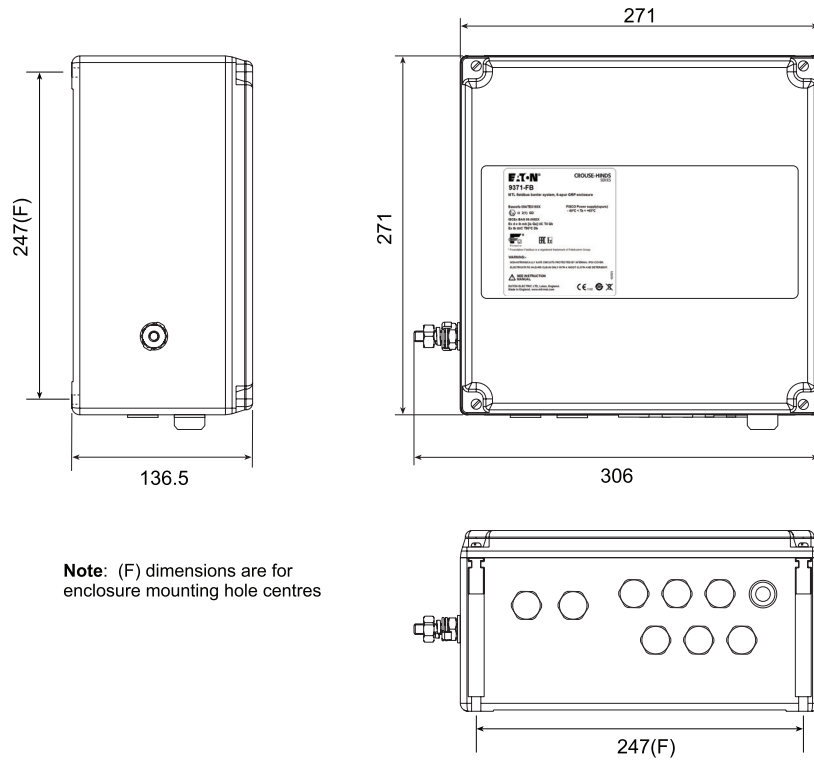
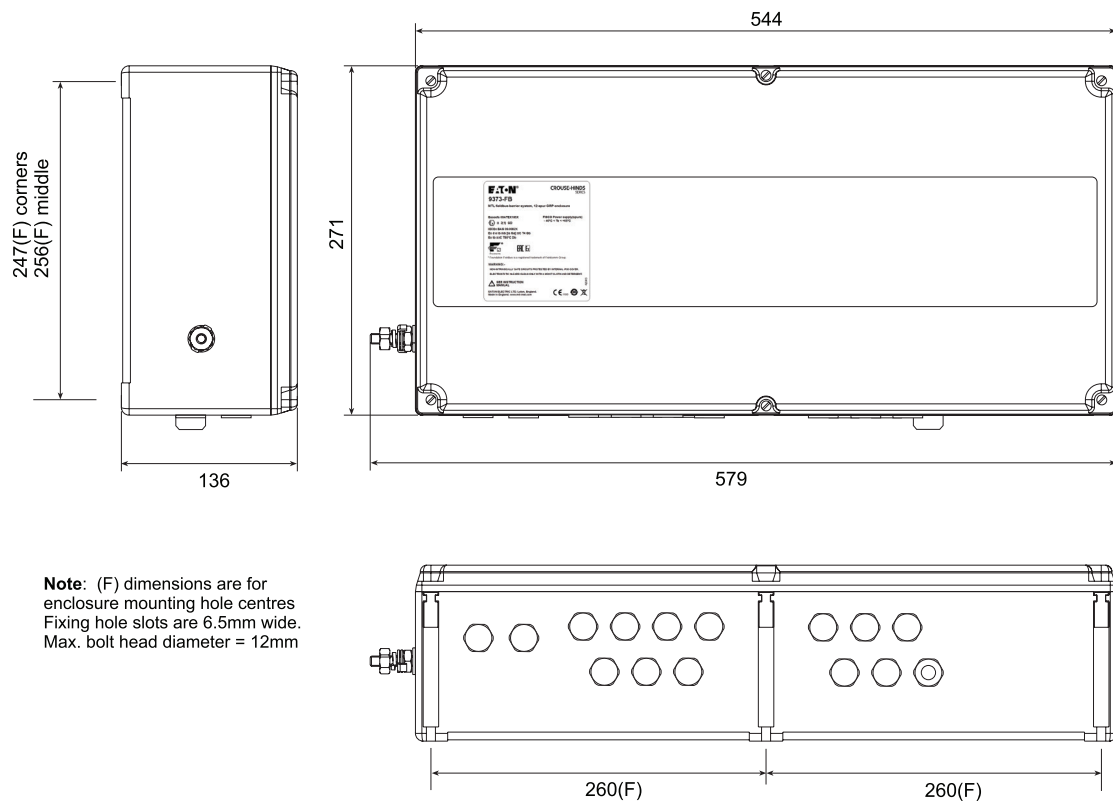

Figure 3.1 - External dimensions and mounting hole positions for the 6-way enclosure (9371-FB-Px-PP)
Figure 3.2 - External dimensions and mounting hole positions for the 12-way enclosure (9373-FB-Px-PP)
See Figures 3.1 and 3.2 for the dimensions, fixing locations and cable gland positions for both enclosure models.
- c) The enclosure is designed for mounting on a vertical surface, with the cable entry at the lowest point, as shown in the upper part of Figure 3.1 or Figure 3.2.
Mark hole positions as shown in Figures 3.1 or 3.2.
For the 9373-FB, it is important to recognise that the hole centres for the middle fixings are not aligned with the holes for the end fixings. Use the dimensions indicated as (F) in Figure 3.2.
- a) It is recommended that a washer, not exceeding the 12mm diameter specified in Figures 3.1 and 3.2, is placed under the head of each of the bolts used to fix the enclosure to its mounting surface.